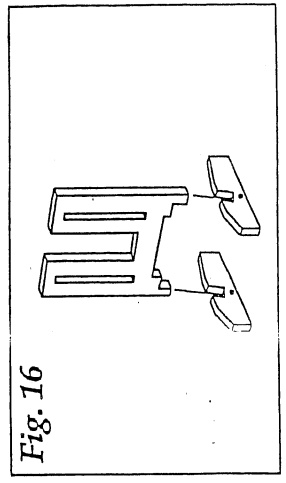

Fig. 16
14) You now have two large "H" shaped basswood pieces left in the kit (part 9). Take them and the 4 basswood feet (part 10) and glue them together as shown in fig. 16. Make sure that the toe and heel of the feet are square and exactly 4" apart. Don't worry that they seem to be sitting on an angle...they're designed to face each other (fig. 17).